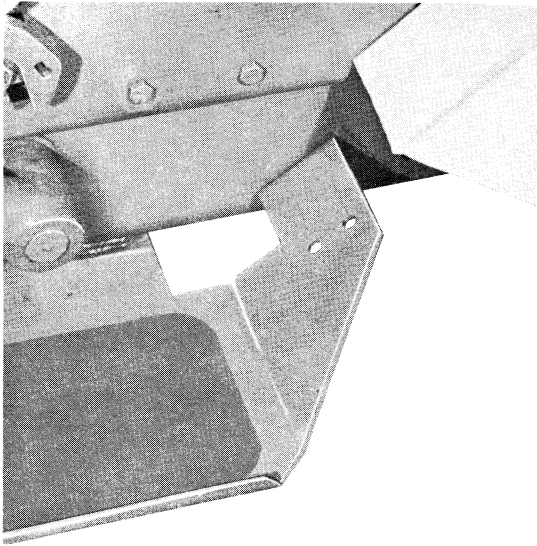

fig 2
1. Make the cutouts and holes in the footboards if necessary, fig 2. Use the template supplied.